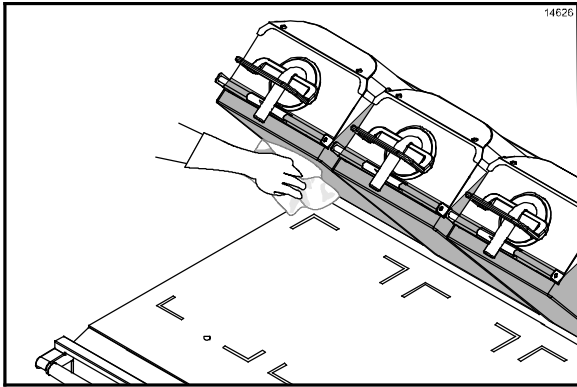

Figure 79
7. Wipe the exposed surface of the release sheets with a clean, sanitizer-soaked grill cloth. (See Figure 79.)